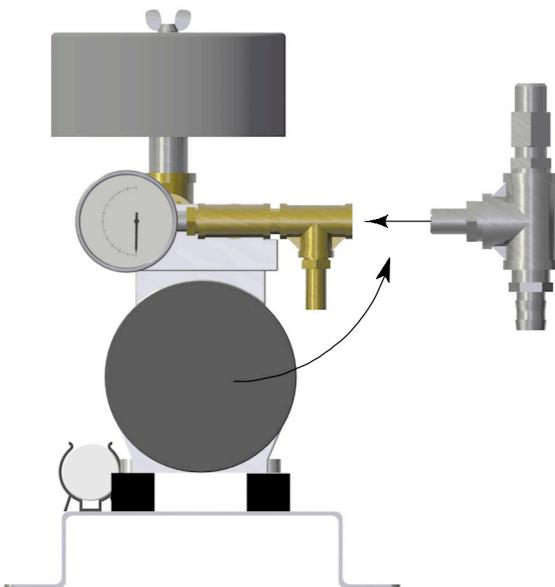

Figure 13: Step 2 Rotate and attach assembly
- Step 2:** Rotate the entire discharge assembly and attached the electrical connection assembly. If required. (See *Figure 13*)